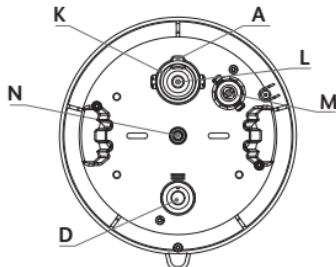

Fig. 1
- Move the handle from the horizontal to the vertical position (the jaws open): Fig. 1